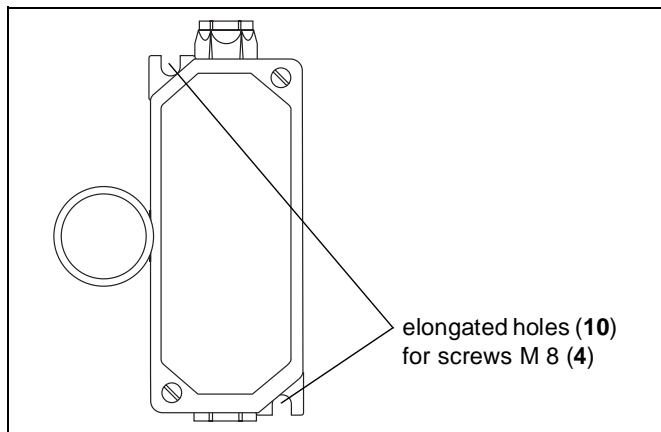

Fig. 5-2: Mounting belt misalignment switches on the belt conveyor
2. Fasten the belt misalignment switches on the belt conveyor structure by putting screws M 8 (4) through the two elongated holes (10) (see Fig. 5-2).